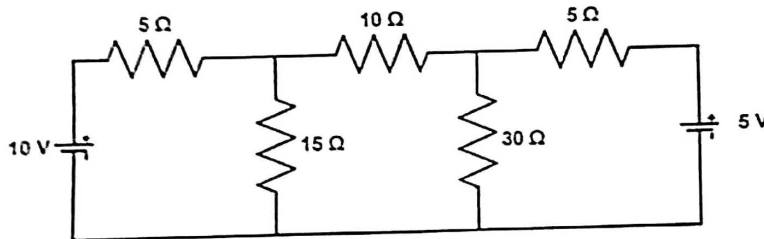

Figure 2a
- a) For the circuit shown in Figure 2a find the current through the resistors using mesh analysis.